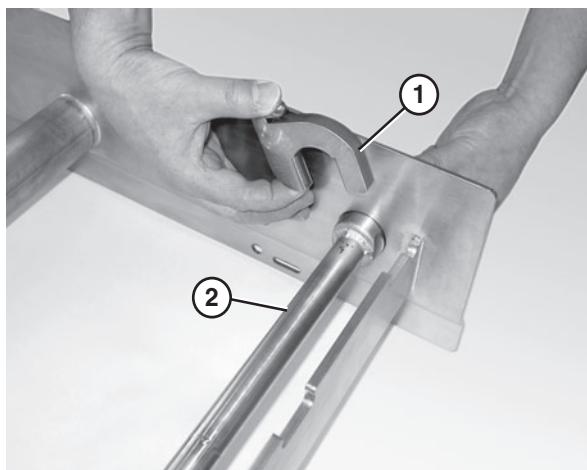

Figure 21
2. Attach the key stops (**Figure 21, item 1**) to the tip up shaft (**Figure 21, item 2**). The rounded end of the key stop should be facing the tail.